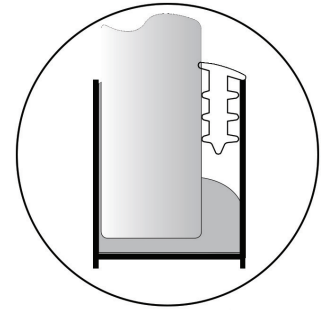

FIG 16.
- Starting at the top of the wall channel, from outside shower, spray with warm soapy water then insert rubber wedge seal into gap (removing plastic wedges if used). (FIG 16) Leave rubber wedge protruding 40mm at top to cut off later.